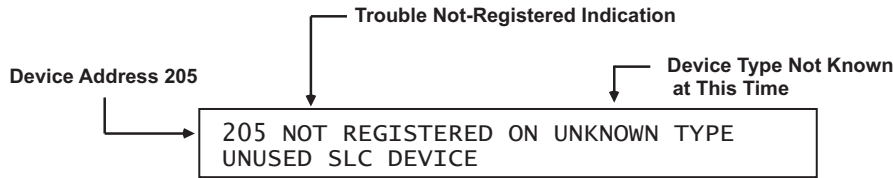

Figure 3-48. Typical Device Not Registered Message
3. All of the SmartOne devices connected to the SLC will report a not-registered trouble message similar to the message shown in Figure 3-48: